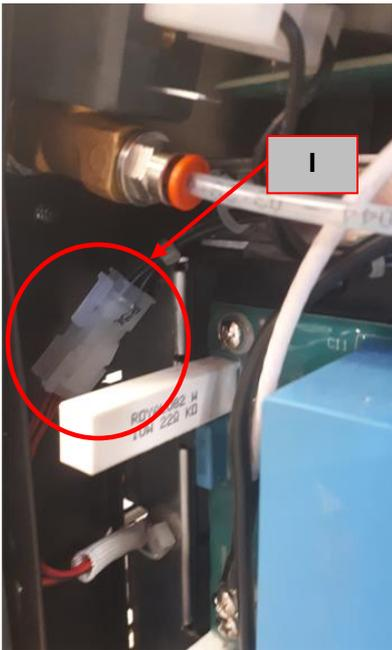

Figure 50
14. Disconnect the fan's power supply connector (I). See **Figure 50**